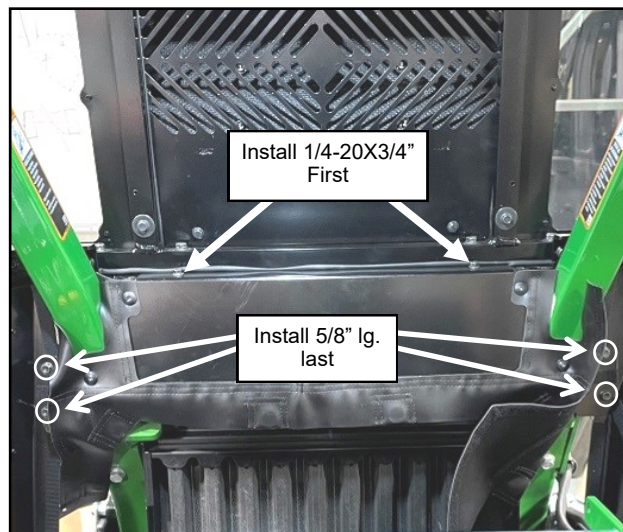

Fig. 2.18 (Install Rear Panel Assembly)
2.18 Place the rear panel assembly onto the R.O.P.S. brackets apply pressure towards the AC Unit. Install the top horizontal screws first and then the (4) screws in two rear fillers. Attach to the previously installed Velcro. See Figure 2.18.